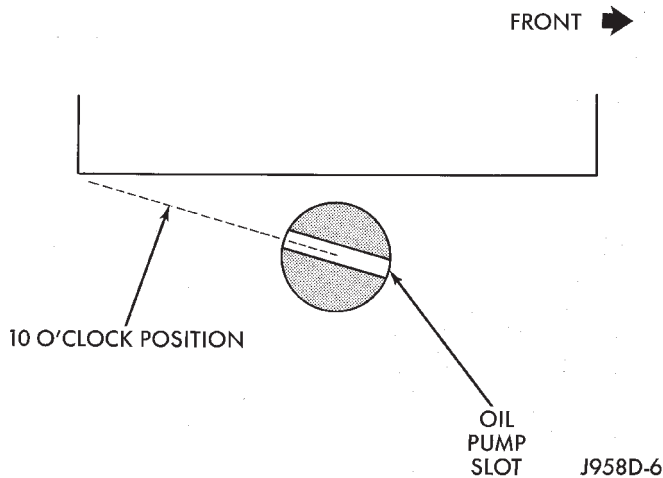
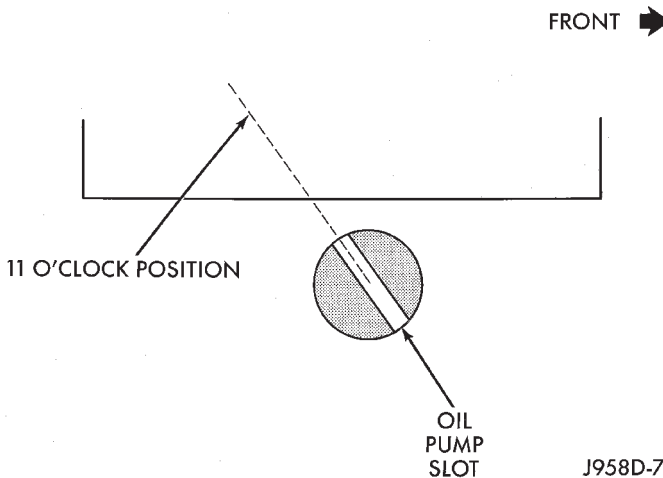

Fig. 38 Slot At 10 O'clock Position—2.5L Engine
Fig. 39 Slot At 11 O'clock Position—4.0L Engine
(11) Note the removed position of the rotor during distributor removal. During installation, this will be referred to as the Pre-position.
(12) **2.5L 4-Cylinder Engine:** Observe the slot in the oil pump gear through the hole on the side of the engine. It should be slightly before (counterclockwise of) the 10 o'clock position (Fig. 38).
(13) **4.0L 6-Cylinder Engine:** Observe the slot in the oil pump gear through the hole on the side of the engine. It should be slightly before (counterclockwise of) the 11 o'clock position (Fig. 39).
(1) If the engine crankshaft has been rotated after distributor removal, cylinder number 1 must be returned to its proper firing stroke. Refer to previous REMOVAL Step 5 and Step 6. These steps must be done before installing distributor.
(2) Check the position of the slot on the oil pump gear. On the 2.5L engine, it should be just slightly before (counterclockwise of) the 10 o'clock position (Fig. 38). On the 4.0L engine, it should be just slightly before (counterclockwise of) the 11 o'clock position (Fig. 39). If not, place a flat blade screwdriver into the oil pump gear and rotate it into the proper position.